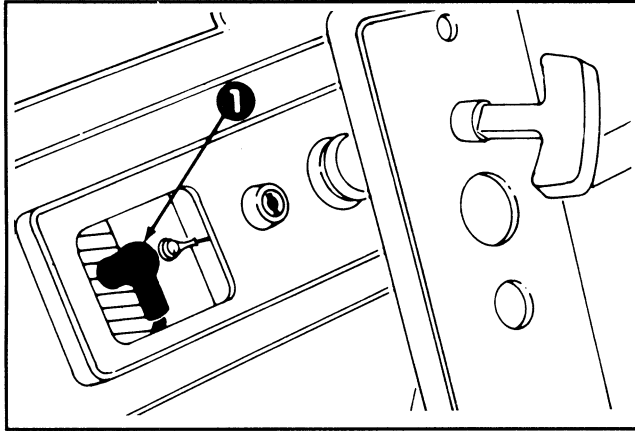

Figure 16
2. REMOVE SPARK PLUG (Fig. 16) — Pull wire off spark plug and remove plug. Examine the plug and replace if cracked, fouled, or dirty. **DO NOT SAND-BLAST, SCRAPE OR CLEAN SPARK PLUG BECAUSE DIRT MAY RELEASE AND FALL INTO CYLINDER CAUSING ENGINE DAMAGE.**